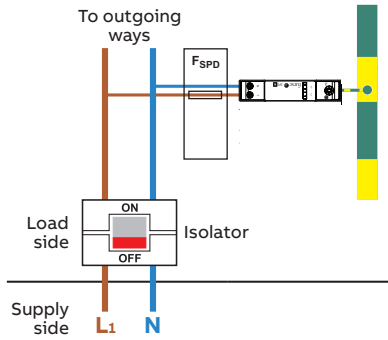

Figure 1: ESP 240CDT2/XXX SPD mounted within a distribution board connected to the incoming supply on the load side (i.e. downstream) of the isolator.
ESP 240CDT2/XXX SPDs need to be installed very close to the power supply to be protected. The ESP 240CDT2/XXX SPD will be installed at a main power distribution board, either inside it (Figure 1) or right next to it in an enclosure (Figure 2). The SPD includes a DIN foot for mounting onto 35 mm top hat DIN rails.
- (i) on the load side of the incoming isolator (Figure 1).